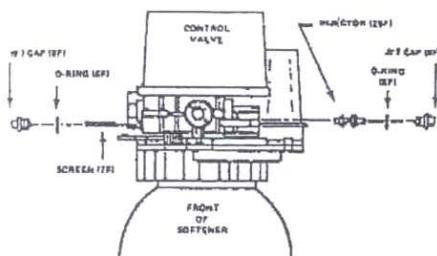

Figure 16
2. Clean Injector Screen (7F) and Injector (28F) once a year, (Figure 16):